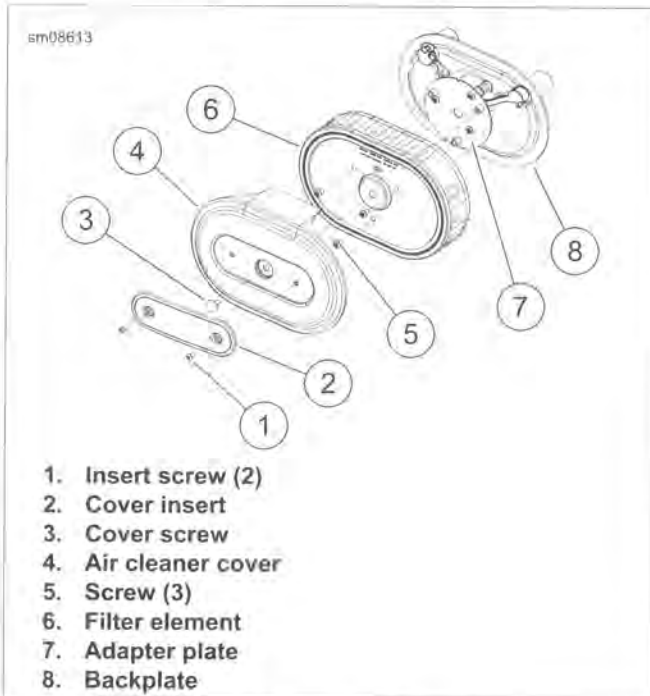

Figure 1-7. Air Filter, HO103
- See Figure 1-7. Remove insert screws (1) and cover insert (2).
- Remove cover screw (3) and air cleaner cover (4).
- Remove screws (5) and filter element (6) from adapter plate (7).
1. See Figure 1-7.
2. Install filter element (6) onto adapter plate (7).
3. Apply LOCTITE 243 MEDIUM STRENGTH THREAD-LOCKER AND SEALANT (blue) to screws (5). Install screws. Tighten to 55-60 in-lbs (5.2-6.8 Nm).
4. Install air cleaner cover (4).
- a. Apply a drop of LOCTITE 243 MEDIUM STRENGTH THREADLOCKER AND SEALANT (blue) to threads of cover screw (3).
5. Install cover insert (2) and insert screws (1). Tighten to 27-32 in-lbs (3.1-3.6 Nm).